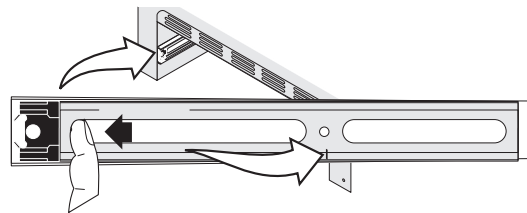

Figure 50: Warmer drawer glides
1. Pull the bearing glides to the front of the outer compartment glide channels until they snap into place (Figure 50).